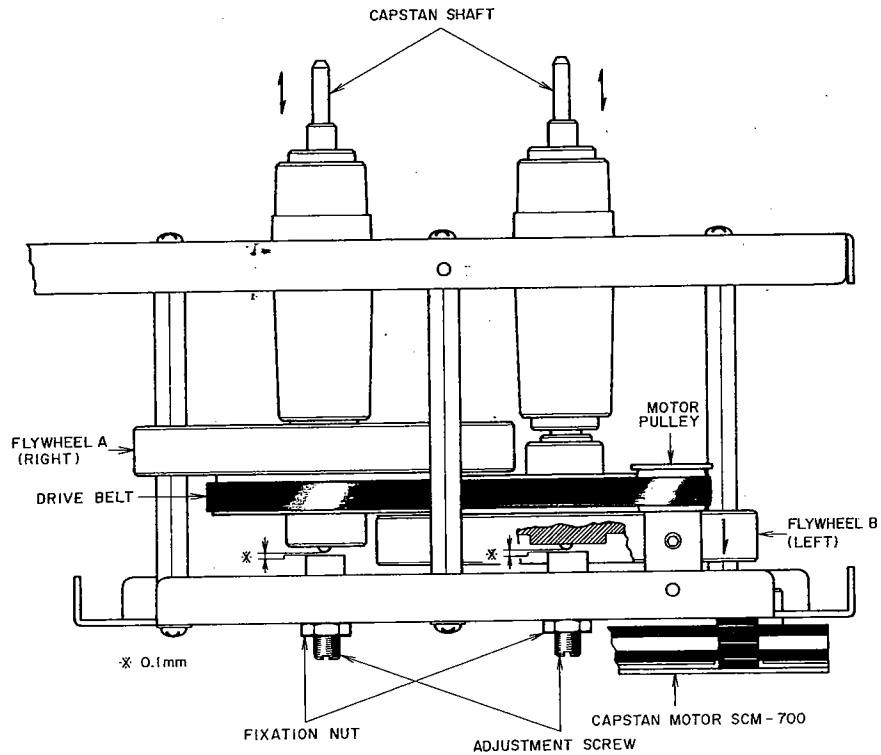

Fig. 3
1. CAPSTAN SHAFT LOOSE PLAY ADJUSTMENT (Refer to Fig. 3)